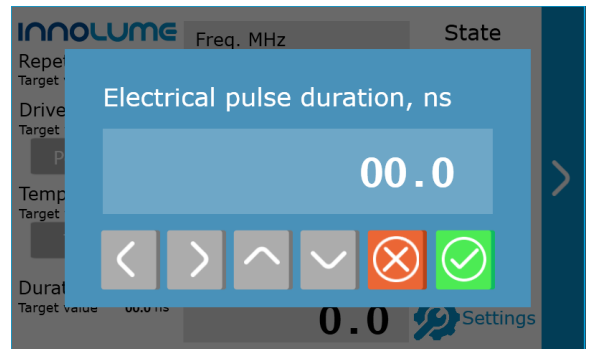

Figure 30 – Setting the pulse width
8. Tap on duration pulse value to set the pulse width (fig. 30). Use the left and right arrows to select the digit to change, use the up and down arrows to change the value. Press  button to save the changes and exit menu. Press  button to exit menu without changes.